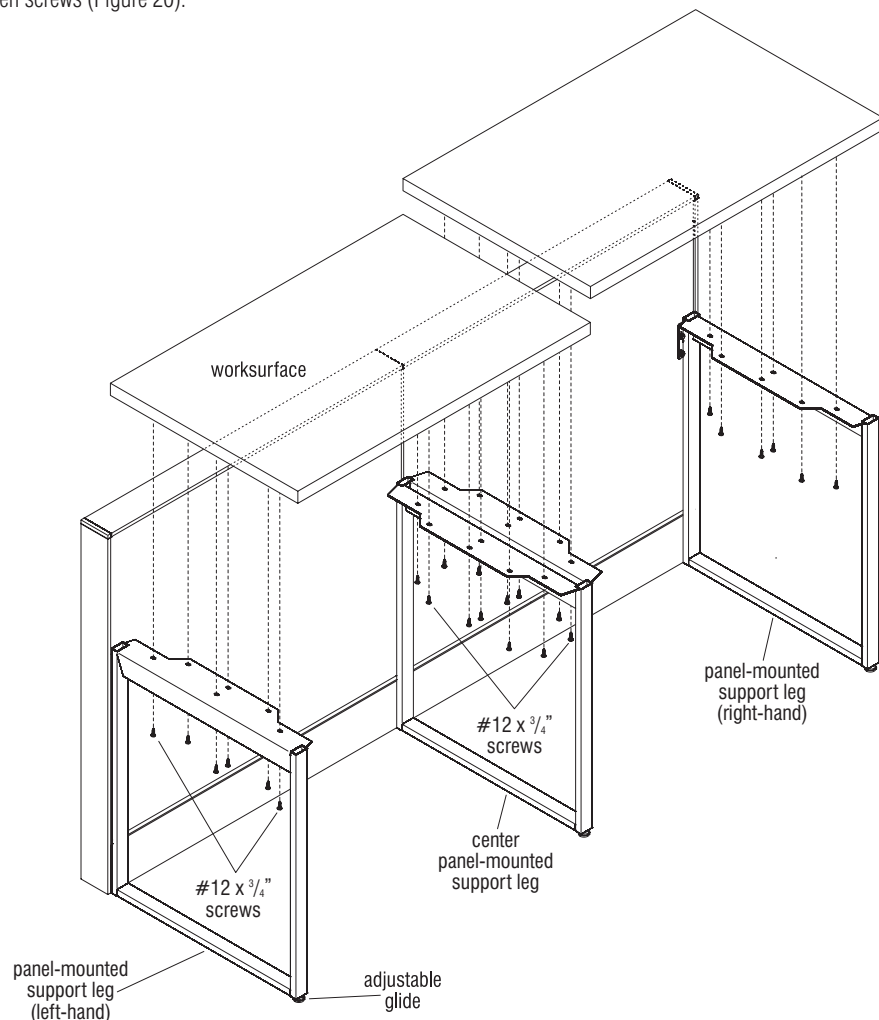

Figure 20 - Worksurfaces to Support Legs
5. Adjust all glides so support leg tops are level front to back prior to installing worksurfaces (Figure 20).
6. Set worksurfaces onto panel-mounted support leg pairs one at a time. Align pre-drilled holes at underside of worksurface with mounting holes of support legs and secure with #12 x ¾" screws. Use six screws at each support leg and take care to not over-tighten screws (Figure 20).